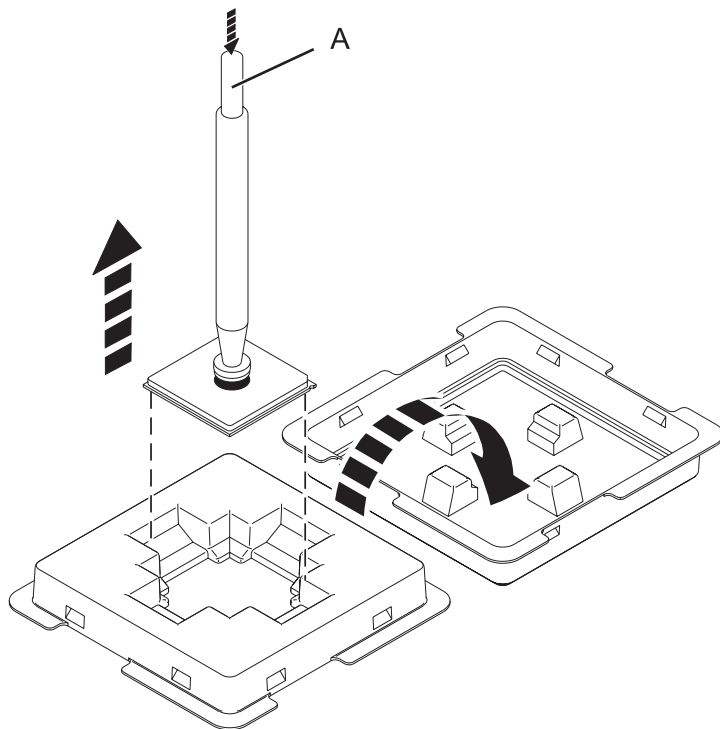

Figure 5. Removing the system processor modules from the packaging
- a. Fully depress and hold the vacuum pen button (A) and place it in the center of the processor module, then release the vacuum pen button. Releasing the button creates suction. Lift the processor module upward. See Figure 5.